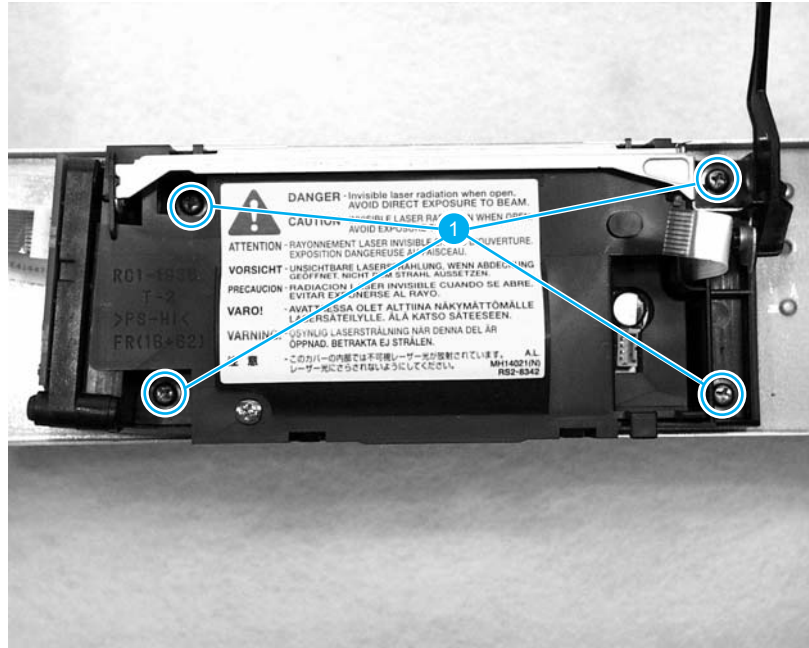

Figure 5-30. Removing the laser scanner assembly
5. Remove four screws (callout 1, figure 5-30).